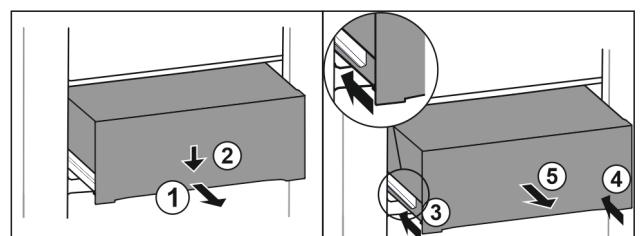

Fig. 154
- Pull out the drawer halfway. *Fig. 154 (1)*
- Press down the drawer on the front. *Fig. 154 (2)*
- Push in the left rail approximately 2 cm. *Fig. 154 (3)*
- Push in the right rail approximately 2 cm. *Fig. 154 (4)*
- Remove drawer to the front. *Fig. 154 (5)*